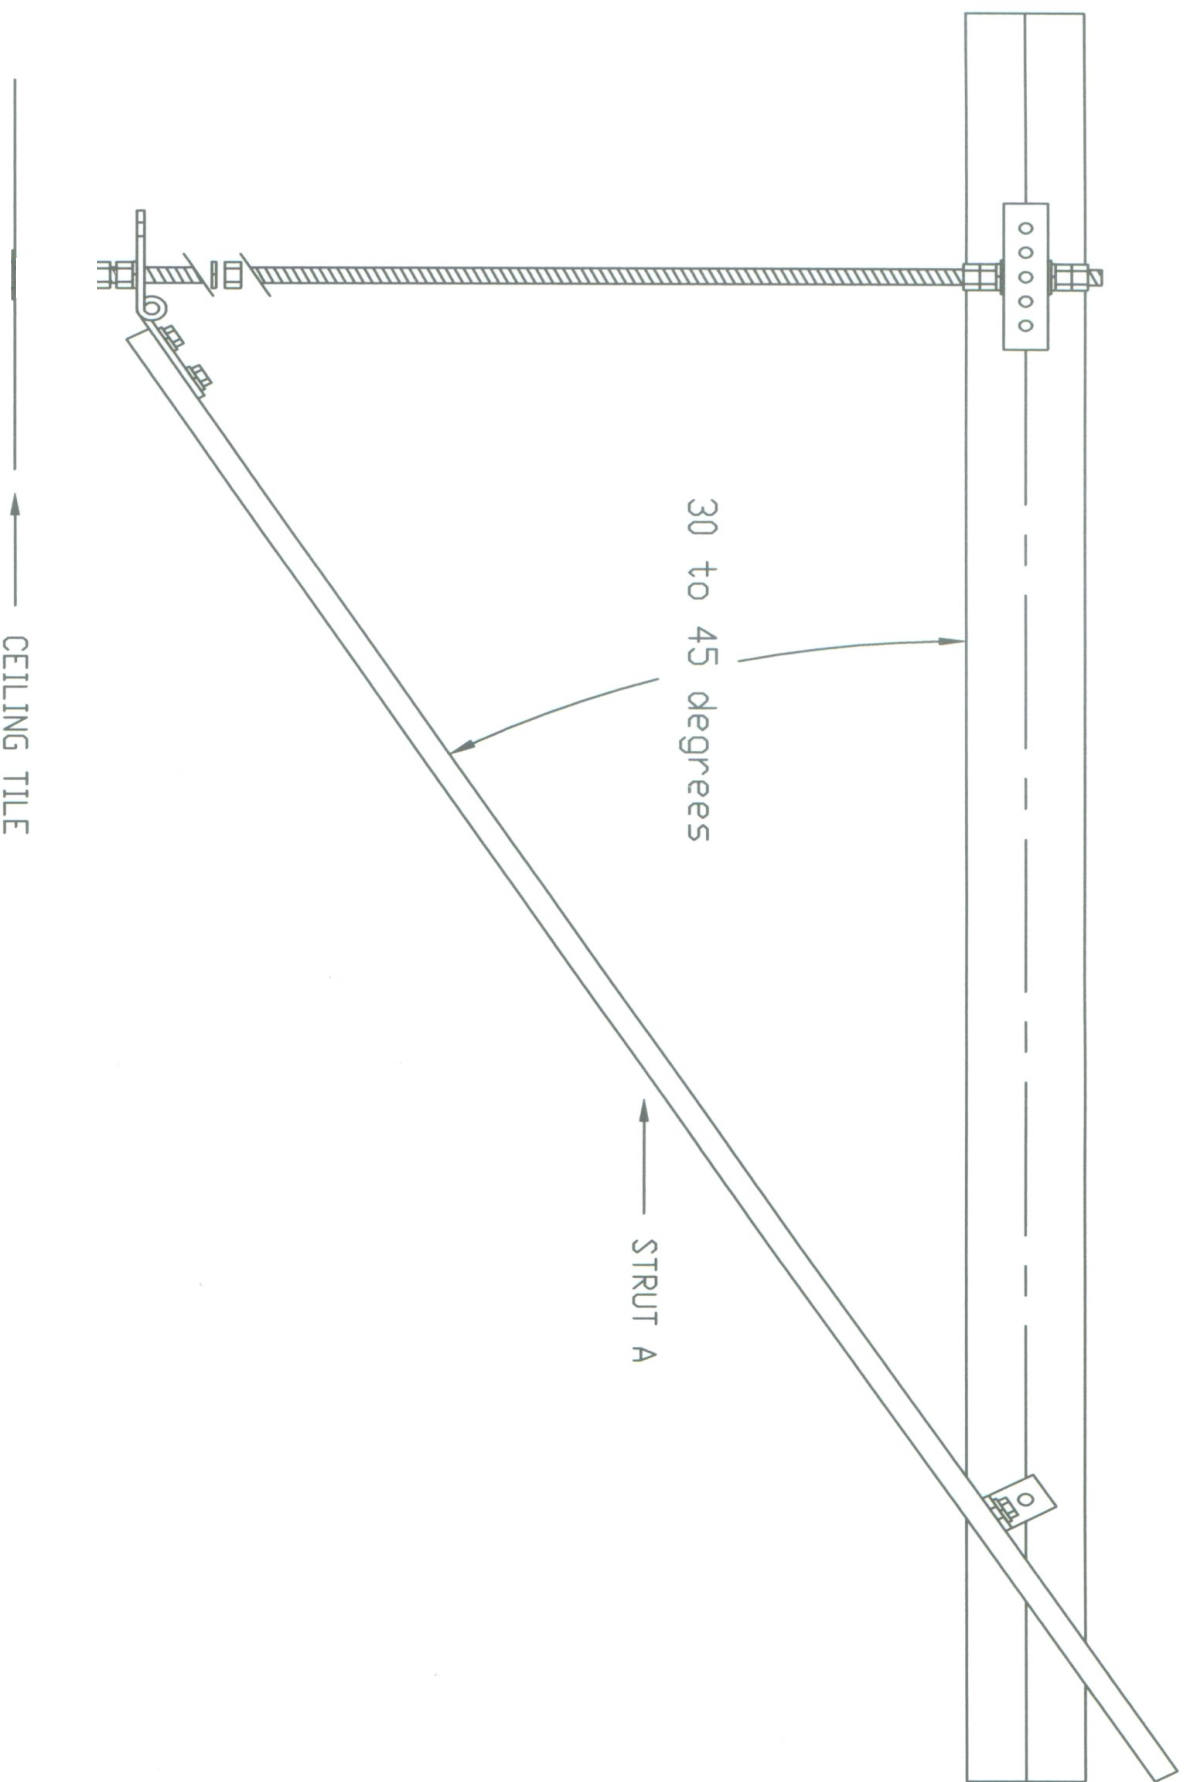

Figure 2
- Position the tube against the joist where you want the suspension point making sure that it is level and centered on the joist (see fig. 2). Mark the outside holes on each end of the tube on the joist. Remove the tube and drill a 3/8" hole through the joist at each mark. Put a 3/8" flat washer on each of the two 3/8" x 4" bolts. Put the bolts through the holes in the tube then through the drilled holes pushing the tube against the joist. Put a 3/8" fender washer then a 3/8" lock washer on the threaded ends of each bolt. Start a 3/8" nut on each bolt and tighten securely. Tighten the nuts